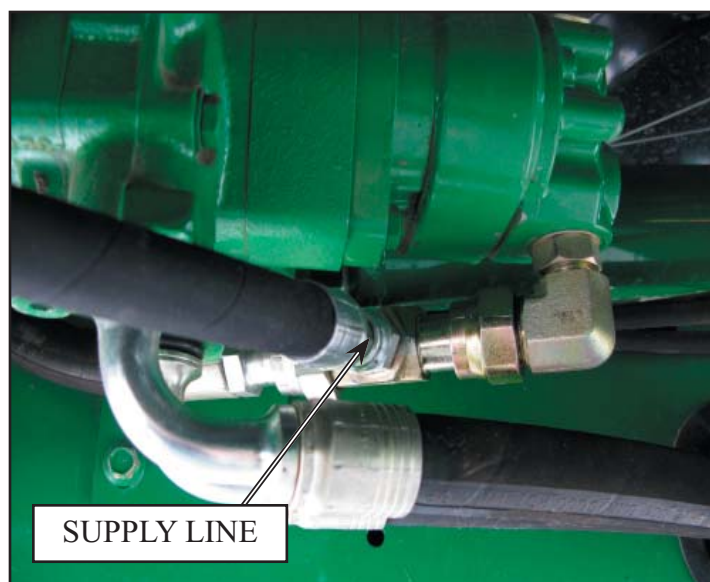

Figure 2.7 -Supply line hook up
Refer to *Figure 2.7* for this step.
1. The supply line connects to the “Fixed Displacement Gear Pump” as shown in *figure 2.7*. Refer to the Hydraulic Diagram on page 11 for correct fitting size.